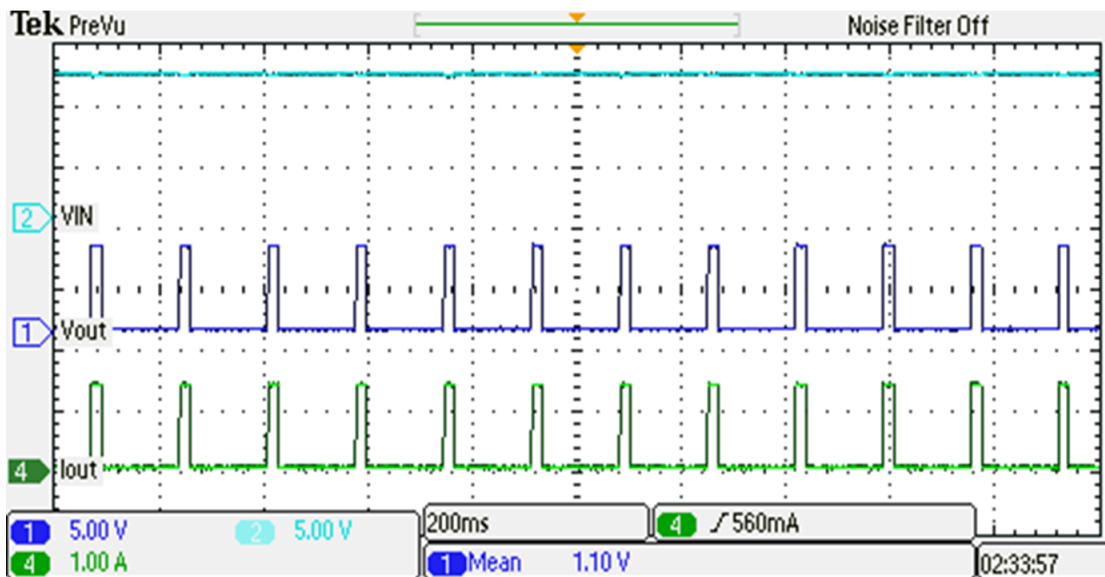

Figure 3. J3= No Jumper Current Limit (1.5 A) Test Auto Retry (CH1)
3. Set the output load at 5.0 $\Omega \pm 0.5\Omega$ on CH1 and then enable the load. Turn on the VIN1 power supply and verify that input current is limited, as per the setting in the Table 9. Verify the device is in auto-retry mode and that the FLTb1 RED LED (D3) turns on and off as shown in Figure 3. The level of the current pulse should match with the load current limit (based on the respective jumper setting), as shown in Table 9.